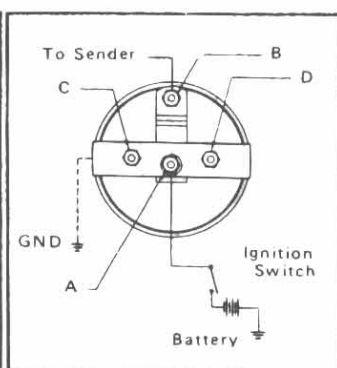

FIGURE 2
- Figure 2, **FOUR TERMINALS**: (A) for wire to ignition, (B) for wire to sending unit, (C) and (D) either stud may be used for wire to ground (and for Lighting Kit 29711, if lighting is desired).
NOTE: Thermal type gauge mechanisms (Fig. 2) require a brief warmup period before accurately indicating monitored function.